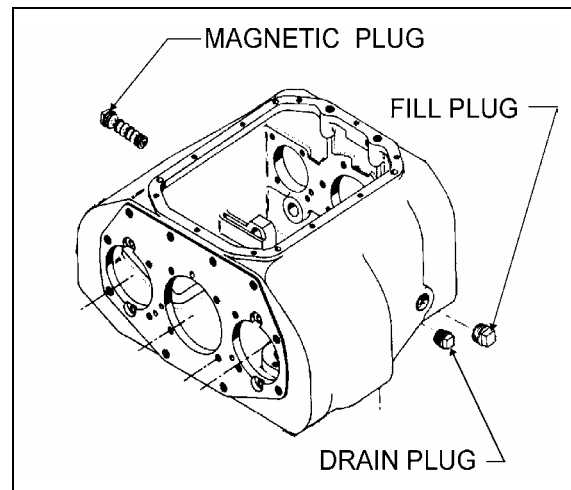

FIGURE 4: MANUAL TRANSMISSION PLUGS 07010
| FIGURE 4: | MANUAL TRANSMISSION PLUGS | 07-5 |
Unscrew the fill plug and check if the oil level is at plug thread level (Fig. 4).
1. Unscrew the drain plug (Fig.4) and allow the oil to drain into a suitable container.